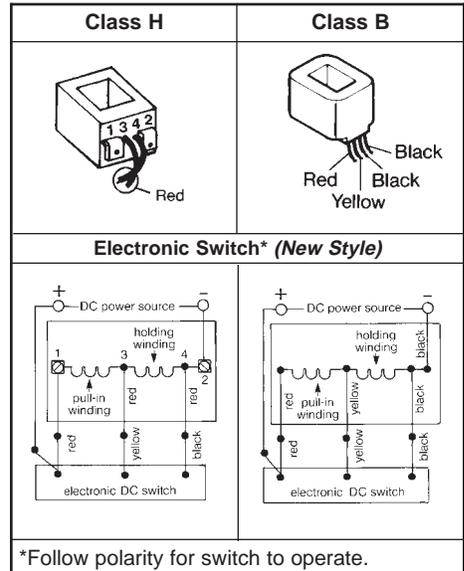

Figure 5
- All Stearns DC coils are single voltage and have dual windings, a high current pull-in winding, and a low current holding winding. See Figure 5. An electronic switch with internal timing circuit is used to switch the coil from high current to low current. Due to the high initial current demand of a DC solenoid, a separate DC power source of adequate current capacity is usually required.
- Connect proper power to the two terminals or two outside wires of the coil as shown in Figure 5. (Polarity must be maintained.)